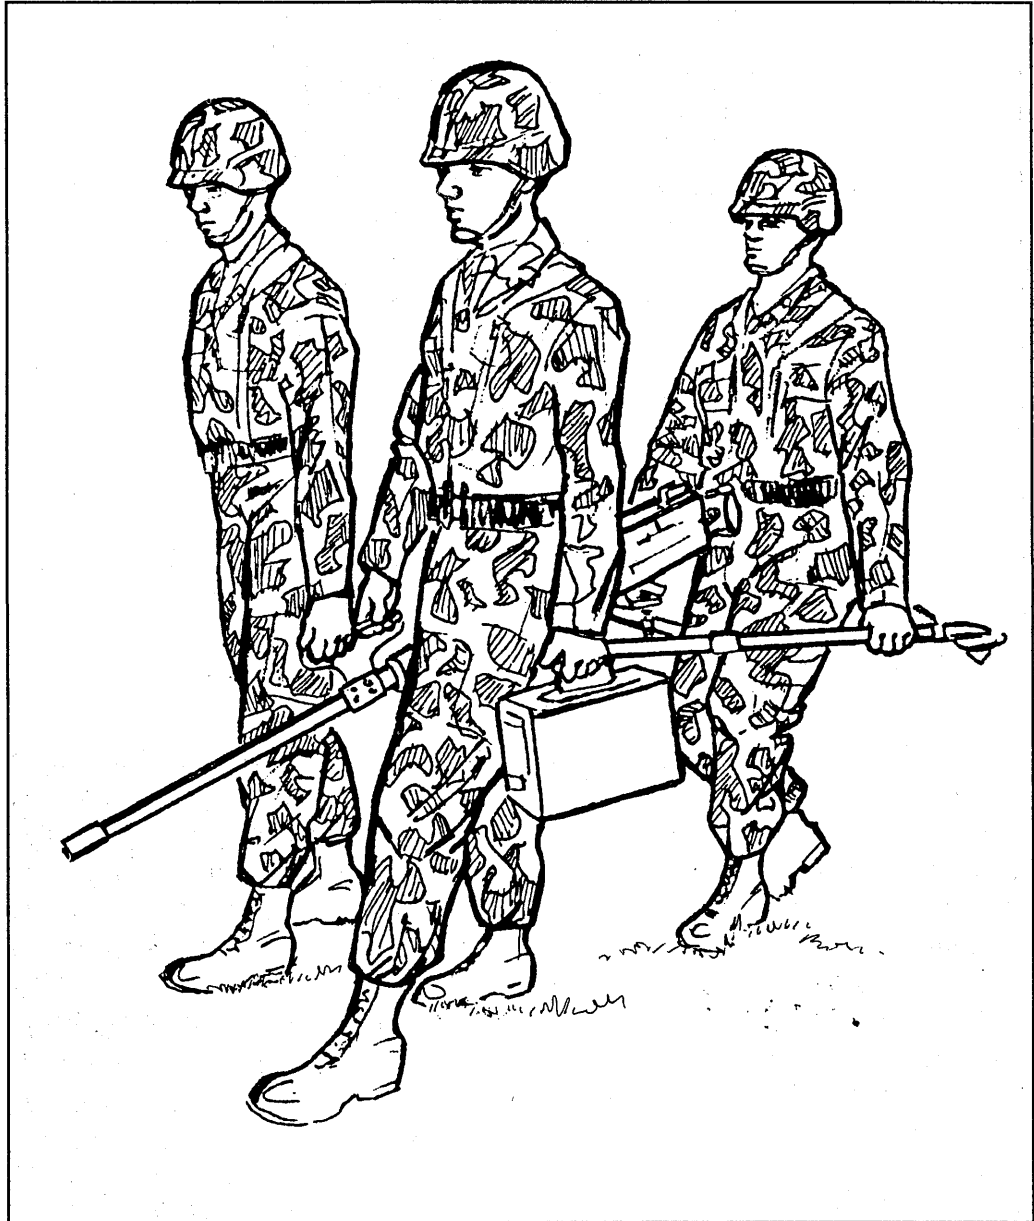
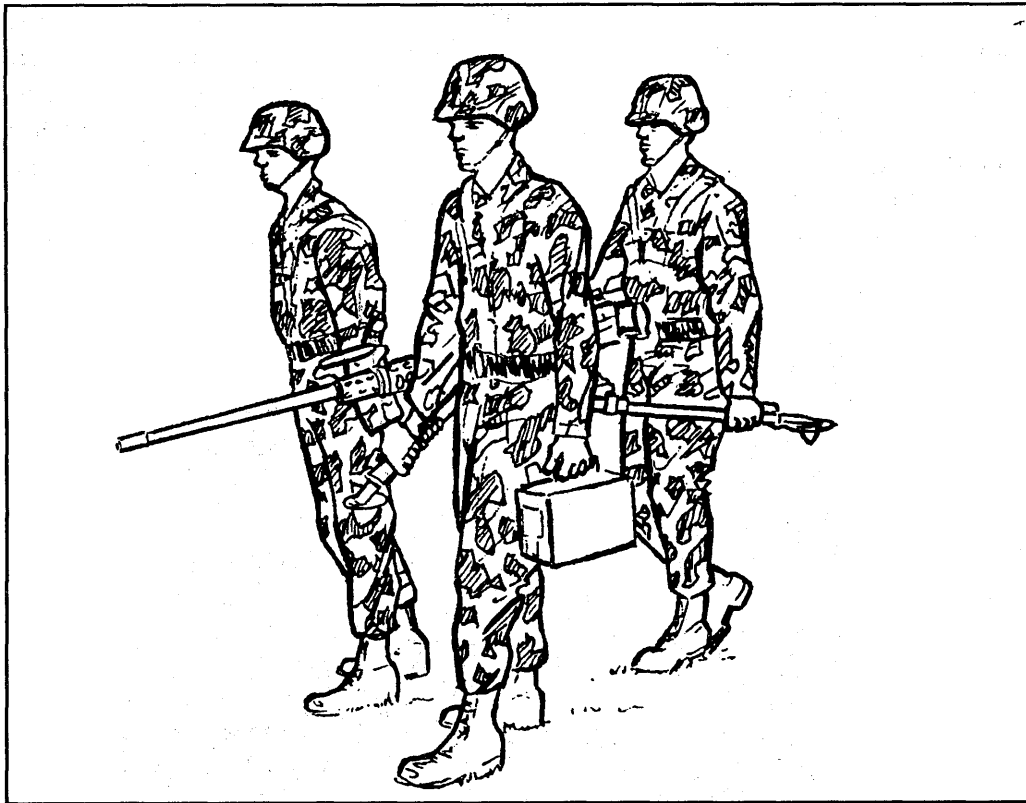

Figure 5-27. Three-man carry (hot barrel).
Figure 5-28. Three-man carry (cold barrel).
(3) *Three-man carry.* When the barrel is hot, the gunner gets behind the tripod with a trail leg in each hand. With the assistant gunner on the left and the ammunition bearer on the right, each grasps the carrying handle. In addition, the assistant gunner carries the ammunition in his left hand (Figure 5-27). When the barrel is cool, the ammunition bearer and the assistant gunner each grasp the front leg (Figure 5-28).